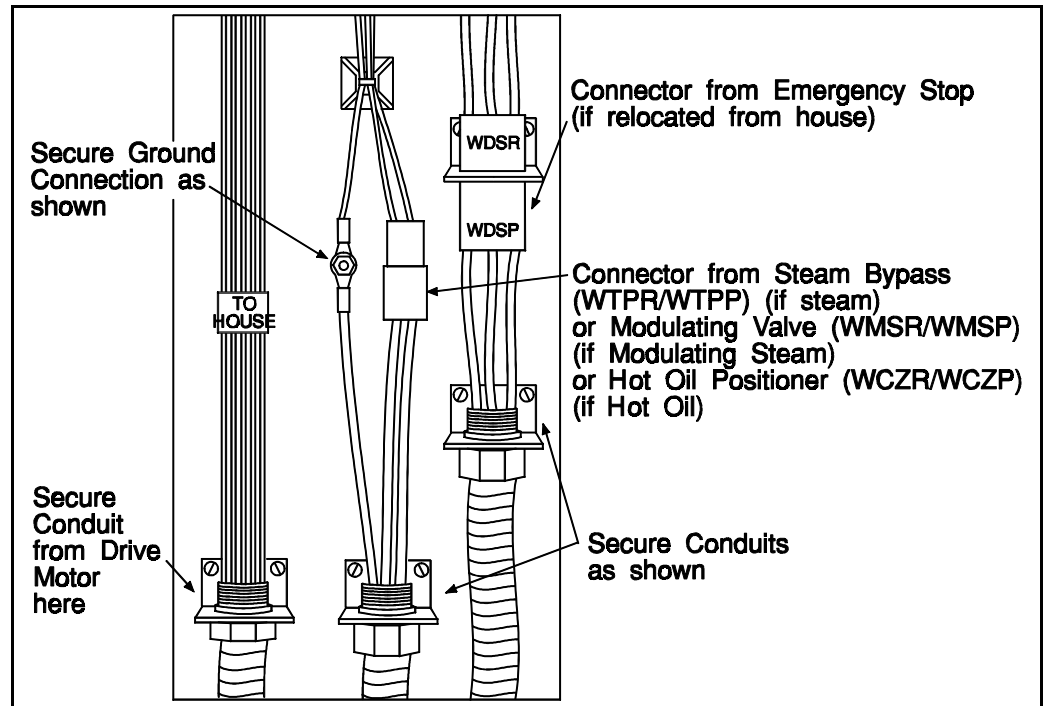

FIGURE 10 (MSIN0108AE)
1. Secure the conduit, connectors and ground wire (located in the Electrical Access Compartment) as shown in FIGURE 10.